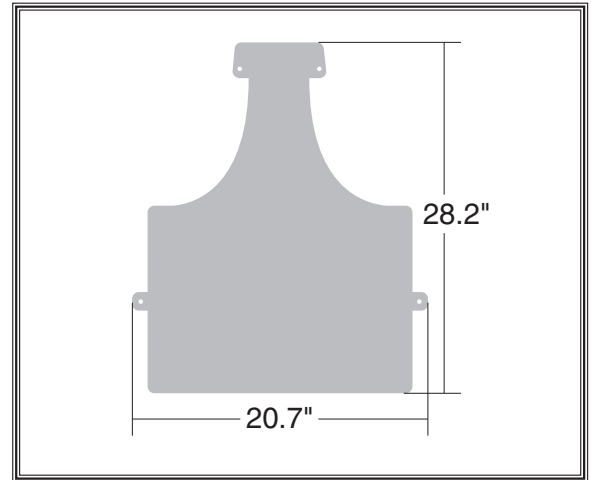

Figure 6. Table footprint.
1. Determine the surface or object to which you will mount your overarm router, ensure that you have enough space for the table footprint (**Figure 6**), and obtain the needed hardware for your mounting application.